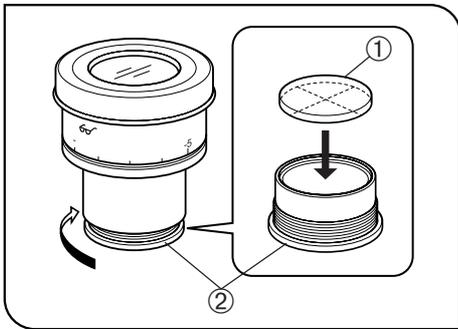

Fig. 14
5 Mounting the Eyepiece Micrometer Disk (Fig. 14)
Following Fig. 14, turn the built-in micrometer-mounting frame ② to the arrow direction to remove it from the eyepiece and place a micrometer disk ① into the mounting frame so that the surface with the model indication faces downward.